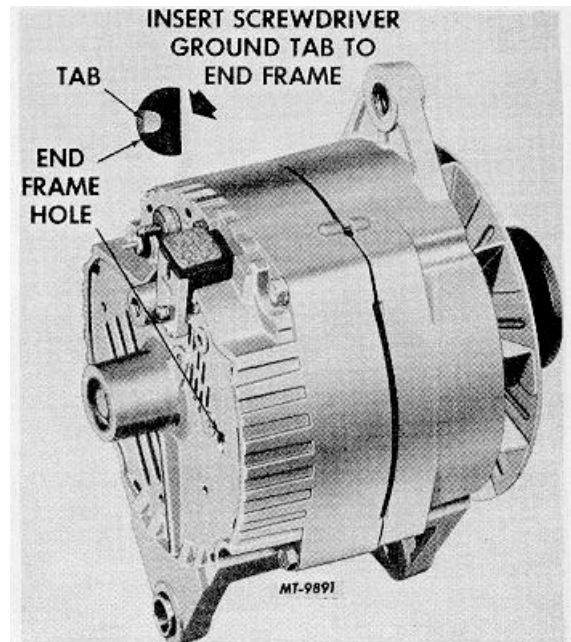

Fig. 5.
- g. If ampere output is not within 10 amperes of rated output, insert screwdriver into end frame hole to ground tab to end frame (Fig. 5) Tab is within 19 mm (3/4") of casting surface. Do not force screwdriver deeper than 25 mm (1") into end frame. Proceed to Step h.